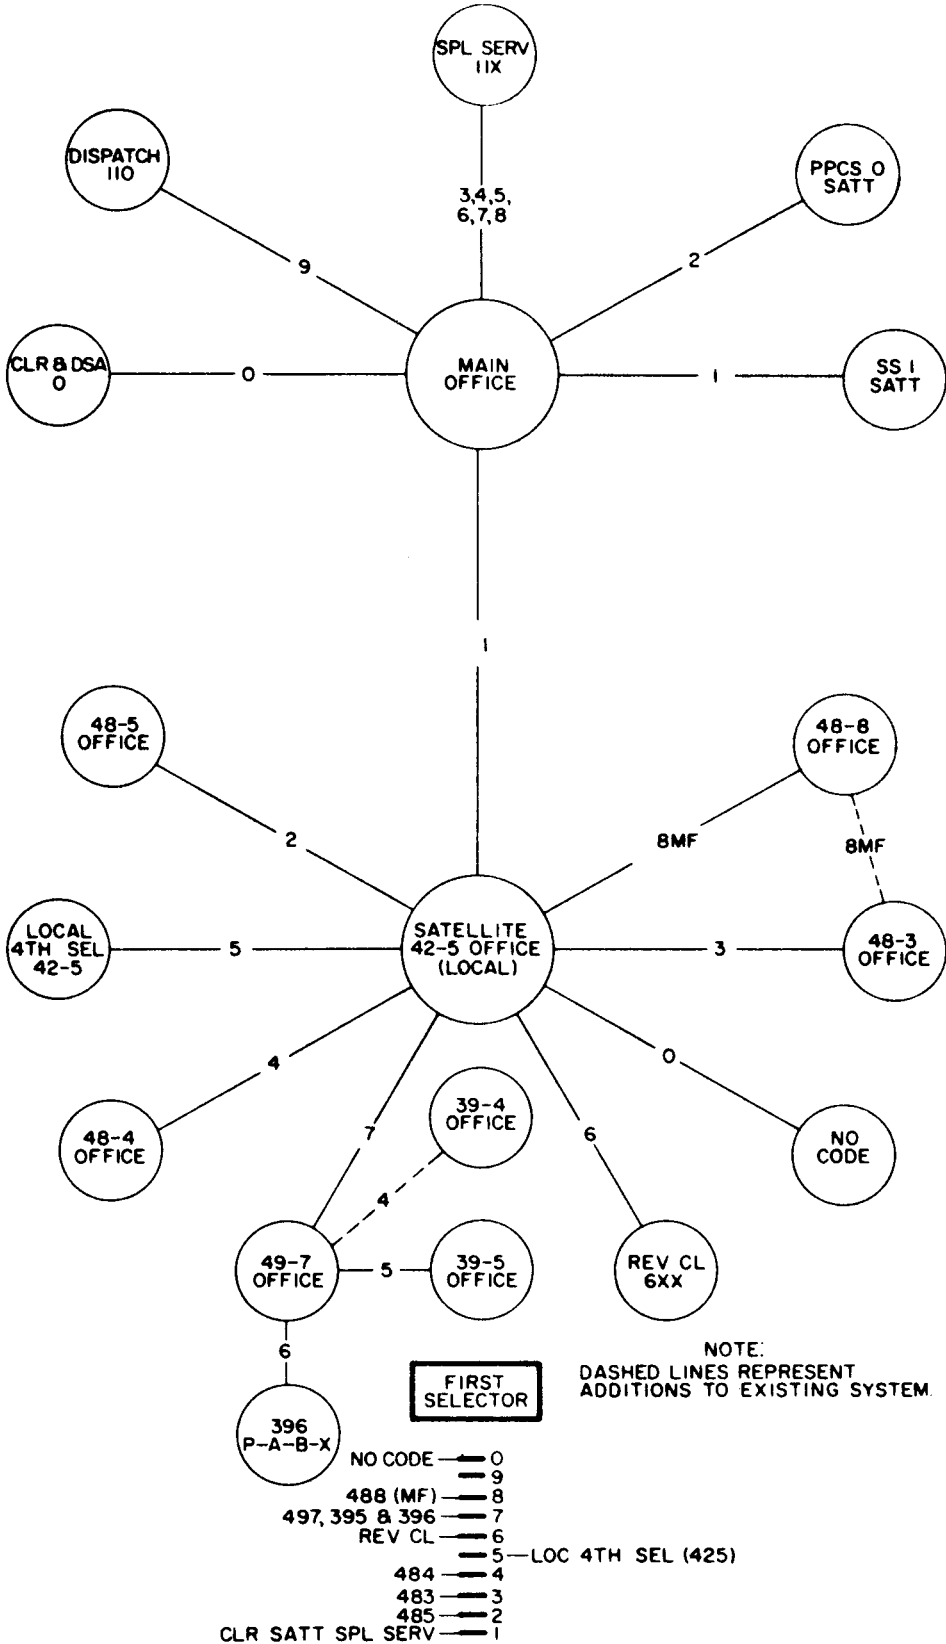

Figure 1. Typical Switching Diagram.
3.01 A test program should be developed to facilitate testing in an organized and thorough manner. A program of this type will also expedite testing and provide a valuable record of the readout indications that should be exhibited when predetermined digits are dialed (or keyed) into the register-sender. A test program form similar to the sample shown in Table 1 can easily be prepared. Table 1 is based on the sample switching diagram shown in Figure 1. The information presented in Table 1 is intended only as a guide to indicate the type of information required to prepare an adequate test program form for the individual office being tested.